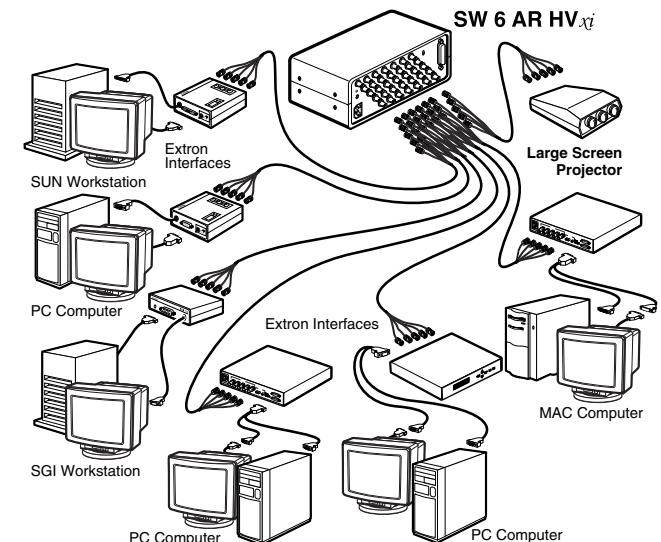

Figure 19 — SW 6 AR HVxi cabling
1. Use BNC connectors to connect each input device to the input connectors (figure 18). MBC cables or MBC buffers may be required for computer/monitor/switcher connections, as shown in figures 19 and 20.